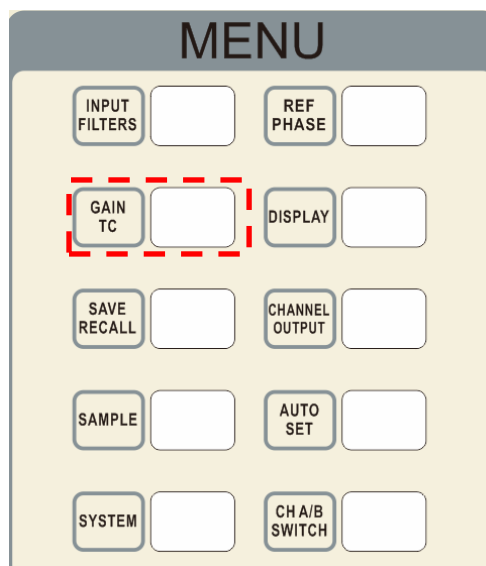

Fig.87 [GAIN/TC] Menu
5. Press [GAIN/TC] in front panel and then enter the submenu as shown in Fig.87.